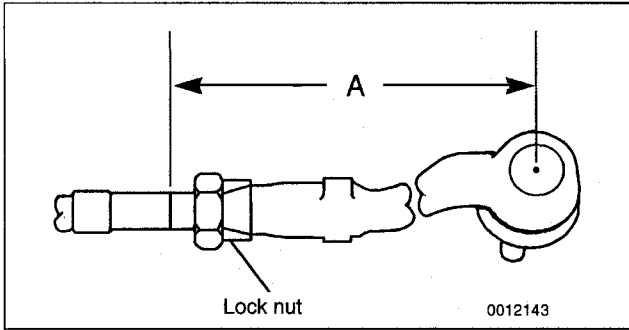

Fig. 8. Measuring tie rod end position (for reference only).
2. Make a reference measurement of outer tie rod end to tie rod. See Fig. 8. Record measurement.
- Make a reference measurement of outer tie rod end to tie rod. See Fig. 8. Record measurement